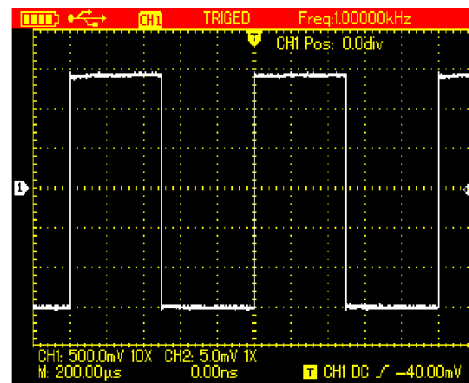

Figure 4-5 Squarewave Signal from the Oscilloscope Itself
3. Conect the probe to the output terminal for probe compensation on the Oscilloscope, press **AUTO** button, after several seconds, squarewave displays (1kHz, 3Vpp, Peak-to-Peak Value), See Figure 4-5.